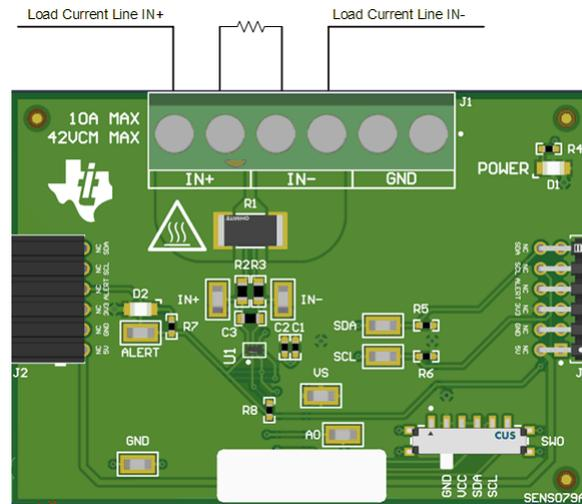

Figure 4-16. IN+ and IN- Wiring With a Shunt Resistor
- b. Connect an external shunt across the IN+ and IN- terminals of J1, preferably across pins 4 and 5 (see Figure 4-16).